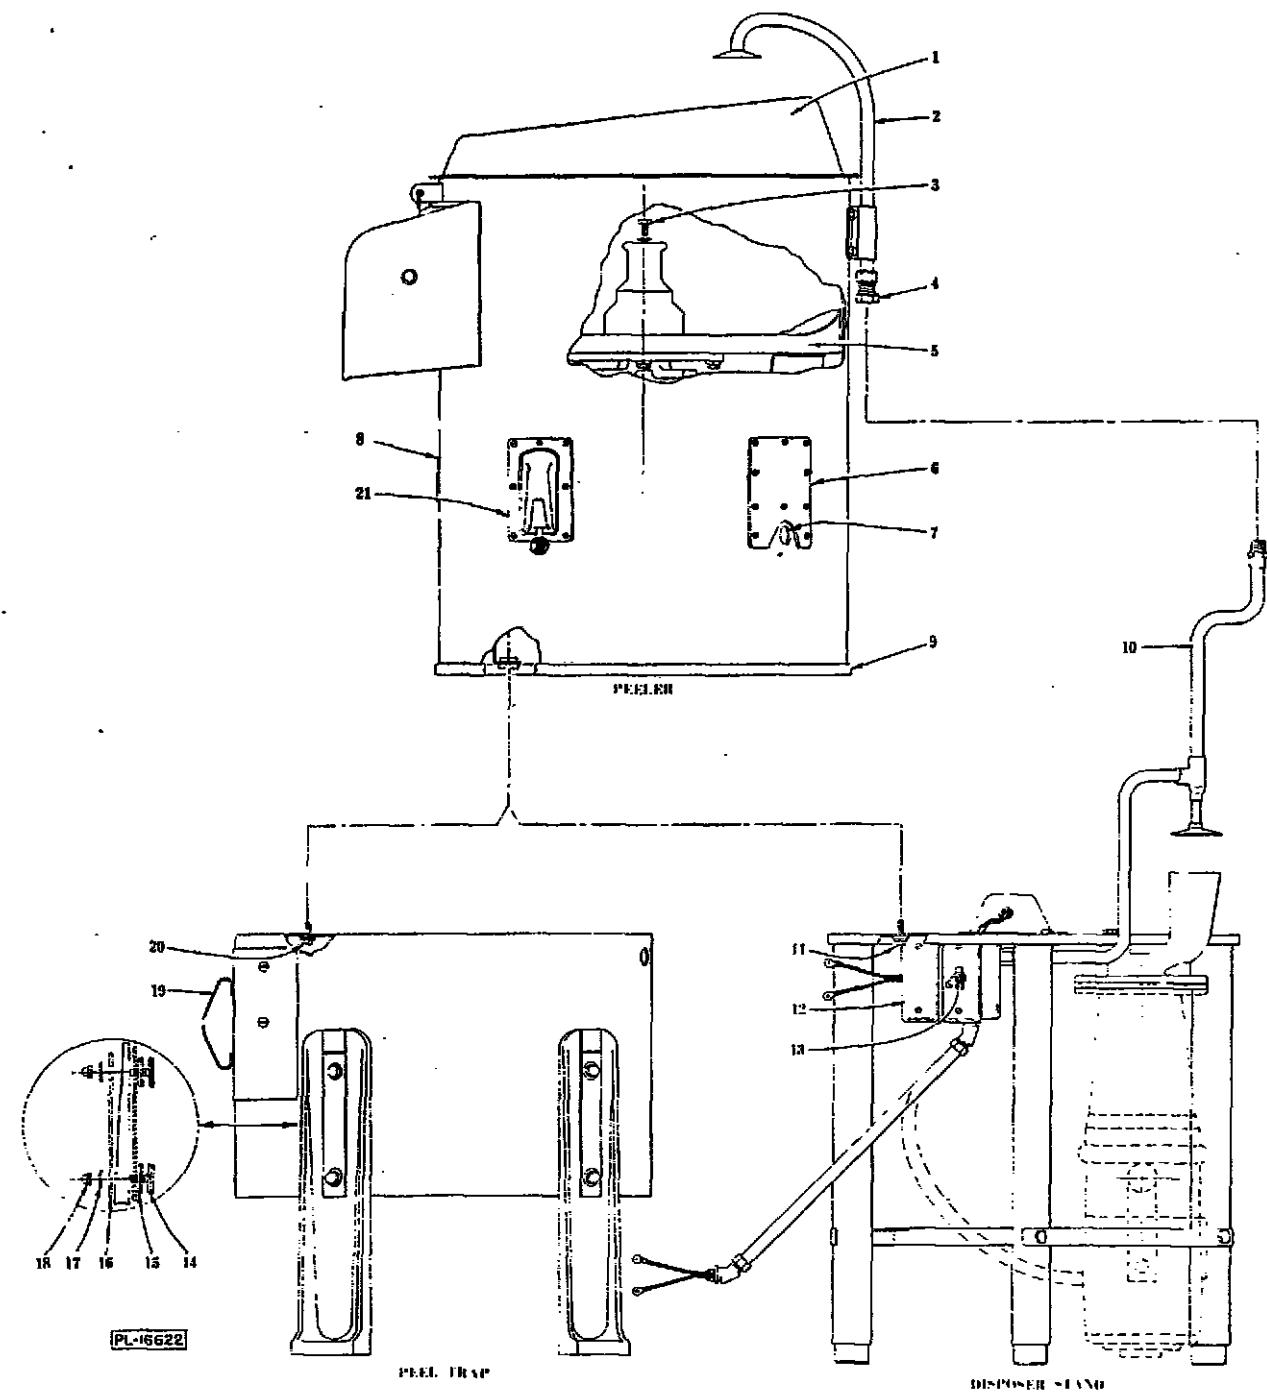

Fig. 1
A.1.1.2 Lift off the hopper top (1, Fig. 1) which is inverted in the housing for shipment.
A.1.1.3 Remove the fill tube and bracket assembly (2, Fig. 1) which is packed inside the housing.
A.1.1.4 Remove the cloth bag from within the housing. This bag contains the gaskets and acorn nuts for attaching the fill tube and bracket assembly. Do NOT remove rubber ring on bottom of peeler (9, Fig. 1) when attaching peel trap or disposer stand to peeler.
A.2.2.1 Remove trap strainer drawer (19, Fig. 1).
A.2.2.2 Assemble rubber gasket (15, Fig. 1) on curved leg clamp bolt (14, Fig. 1) and assemble bolt through upper and lower hole on inside of trap housing.
A.2.2.3 Bolt (14, Fig. 1) to extend through slots in legs and holes in leg slot cover (16, Fig. 1). Assemble stainless steel washer (17, Fig. 1) and acorn nut (18, Fig. 1).
A.2.2.4 Assemble and partially tighten the eight acorn nuts (18, Fig. 1).
A.2.3.4 Use hex screws (20, Fig. 1), washers and lock washers (shipped in bag inside strainer drawer) to attach trap to peeler.
A.3.2.3 Use hex screws (11, Fig. 1) and lock washers (shipped in bag tied to stand) to attach stand to peeler.
A.4.1.1 Assemble the fill tube and bracket assembly (2, Fig. 1) to peeler. The fill tube, when assembled properly, allows the water to strike the edge of the hopper to (1, Fig. 1), giving a fan shaped spray of water, which prevents upward splash from within the peeler.
A.4.1.2 On peeler with disposer stand; connect lower water inlet tubing (10, Fig. 1) to fill tube coupling (4, Fig. 1) and water supply line to solenoid valve.
A.4.2.1 On peelers without disposer stand extension water inlet, connect 1/2" cold water line to fill tube coupling (4, Fig. 1). At a convenient location install a globe valve so the operator may control the flow of water.
A.4.3.1 CHECK ELECTRICAL SPECIFICATIONS ON NAME PLATE (8, Fig. 1) TO MAKE SURE THEY AGREE WITH POWER SUPPLY BEFORE MAKING ELECTRICAL CONNECTIONS. Observe all rules of your local electrical code.
A.4.3.2 A 7/8" hole (7, Fig. 1) in the peeler housing is provided for a conduit connector. Remove the cover panel (6, Fig. 1) and make your electrical connection in the
A.4.3.2.1 A separate junction box (12, Fig. 1) is provided to make disposer electrical connections.
A.4.3.3 The switch or the timer of the peeler is normally assembled on the right hand side of the chute but may be ordered or moved to the left side. To move the switch (or timer), disconnect the power supply, then interchange the cover plate (21, Fig. 1) and the switch. No additional wire is required as the harness provides enough length for this move.
B.1.1 Using the lugs on the hopper top (1, Fig. 1) as locators, position the hopper top on the housing and turn clockwise into place.
B.2.2.2.1 Turn on the disposer motor, then turn on the peeler. The disposer switch (13, Fig. 1) controls both the disposer motor and solenoid fill valve. This fill valve controls the water flow to both the disposer and the peeler.
C.1.1 Turn the reinforced Fiberglas hopper top (1, Fig. 1) counter-clockwise and lift off top.
C.2.1 Lift the abrasive disc (5, Fig. 1) straight up from its shaft. The disc is not fastened to its drive shaft.
C.2.1.1 Should the disc stick, it may be loosened by removing the hex head screw (3, Fig. 1) and using a longer screw (such as 5/16"-18 x 1-1/2"), turn the screw until the disc is loosened.
D.2.2 Disconnect leads at junction box (6, Fig. 1).